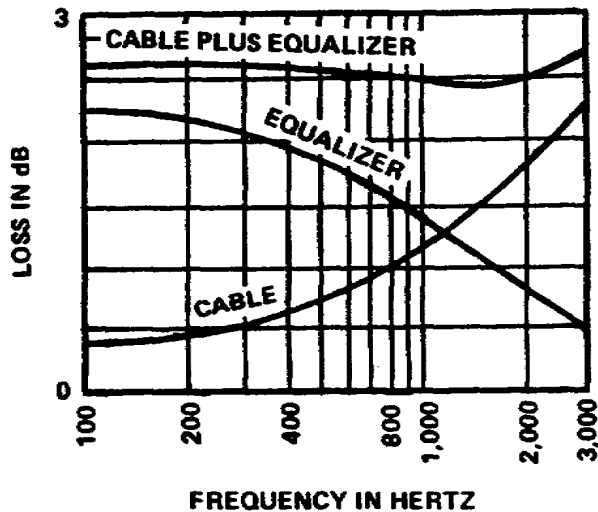
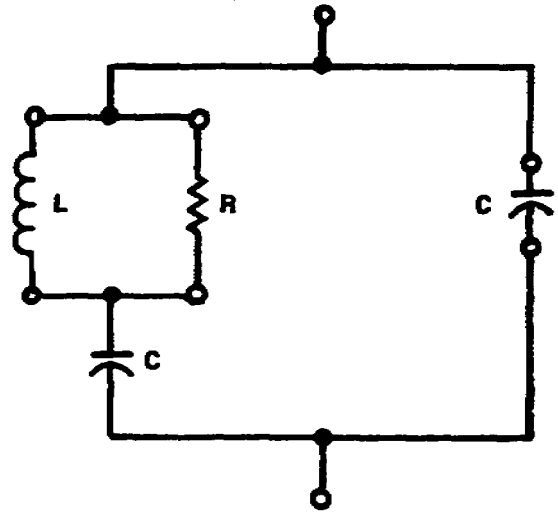

Figure 5-1. Cable, equalizer, and system frequency responses
Figure 5-2. Typical equalizer configuration
(1) Most cables impose a progressive attenuation of the higher audio frequencies; this is shown in Figure 5-1. Therefore, an equalizer is used which imposes a progressive attenuation of the lower audio frequencies.
(2) Although it is impossible to make the frequency response of this system uniform, a good deal of improvement could be acquired by selecting a suitable equalizer circuit with correct component values.
(3) A limitation of the equalizer is the inability to make up or compensate for load changes. Such changes may occur during switching procedures. Therefore, equalizers can be switched in or out of the Load circuit. Also, equalizers have a definite insertion loss, and this loss may be compensated by increasing amplitude. Figure 5-2 shows a typical equalizer configuration.